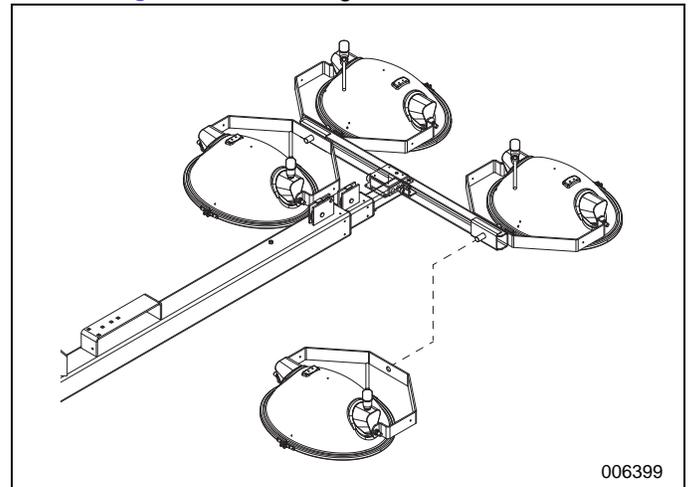

Figure 3. Light Fixture Removal
3. See Figure 3. Remove light fixtures from crossbar.